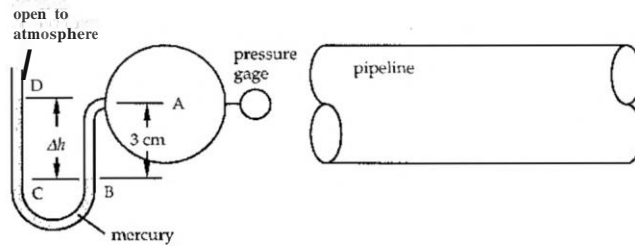

FIGURE P2.22.
22. Figure P2.22 shows a portion of a pipeline that conveys benzene. A gage attached to the line reads 150 kPa. It is desired to check the gage reading with a benzene-over-mercury U-tube manometer. Determine the expected reading Ah on the manometer.